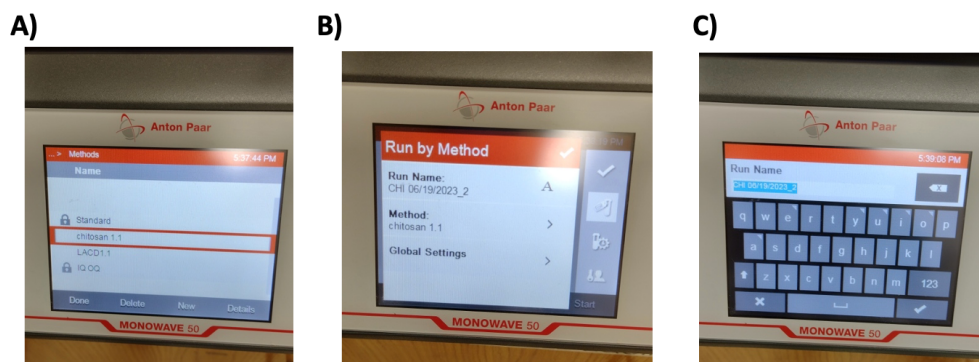

Figure 3. Photos of Monowave 50 reactor touch screen used for setup. **A)** Select the method. **B)** Choose “Run by Method.” **C)** Enter a file name to save data.
- Press “Run by Methods” section (**Fig 3**) by pressing the Menu button.
- Check the settings above (see note) and ensure “Run by Methods” is correct in the instrument (**Fig 3**).